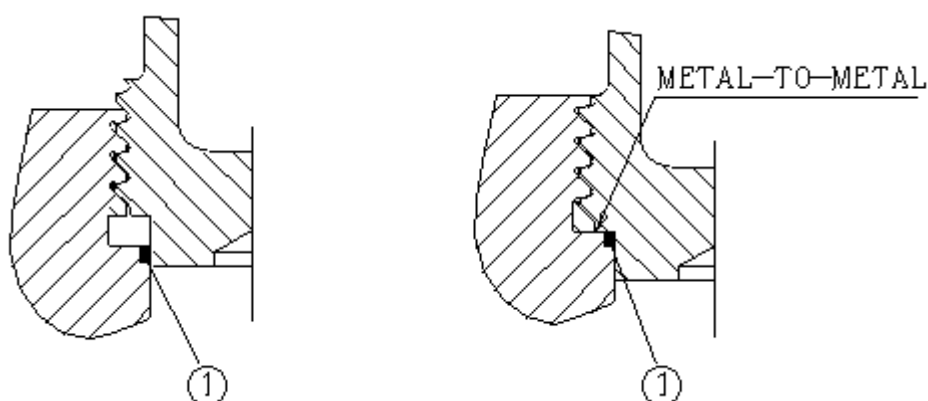

Fig. 20
When making repairs to washouts in the valve pot cover bore, it is extremely important that the surface where the valve cover seats is either "machined" or "ground" perfectly flat and 90° to the axis of the threads. As shown in Fig.20, the valve pot cover gasket (1) seats into the counterbore at top of valve cover deck, and as the cover makes up metal to the valve deck, the gasket is confined within its counterbore. Obviously, any high spots on the valve cover deck from weld repairs. or any low spot from over-grinding of the repairs can result in a gap between top of the valve cover deck and bottom of the valve cover, through which the valve cover gasket can be extruded under pressure.